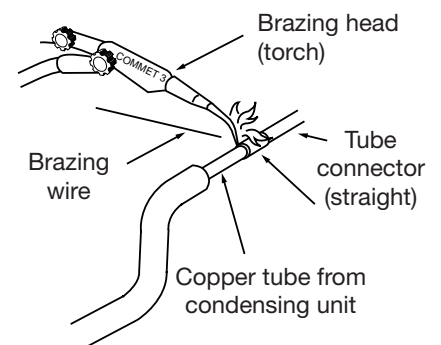

Figure 10
9. To braze the copper tube, before brazing a copper tube to a solder coupling or a copper tube to an expanded tube, do not forget to keep them tight as shown in figure 10.